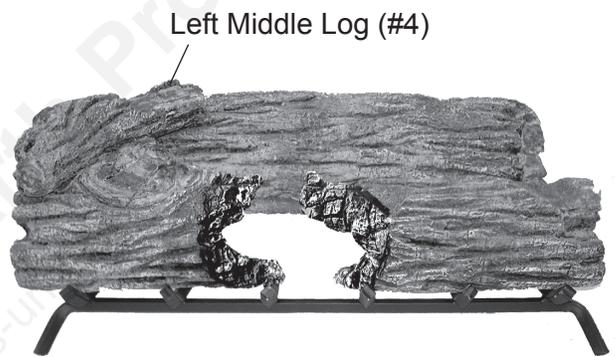

Figure 35 - Placing Left Middle Log (#4)
- Install left middle log #4 as shown. See Figure 35.